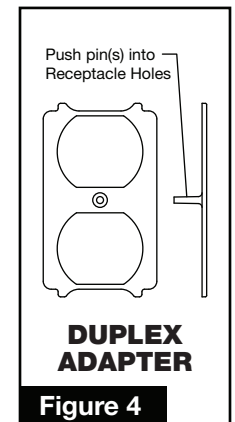

Figure 4
Verify receptacle is centered and securely fastened to box. Drill out (4) pre-marked holes in BASE using 5/32" diameter drill (Figure 6). Push adapter pin(s) into receptacle or switch (Figures 4 & 5). Make certain gasket overlaps box edges. Insert (4) furnished screws and tighten to secure BASE. See steps 6 & 7.